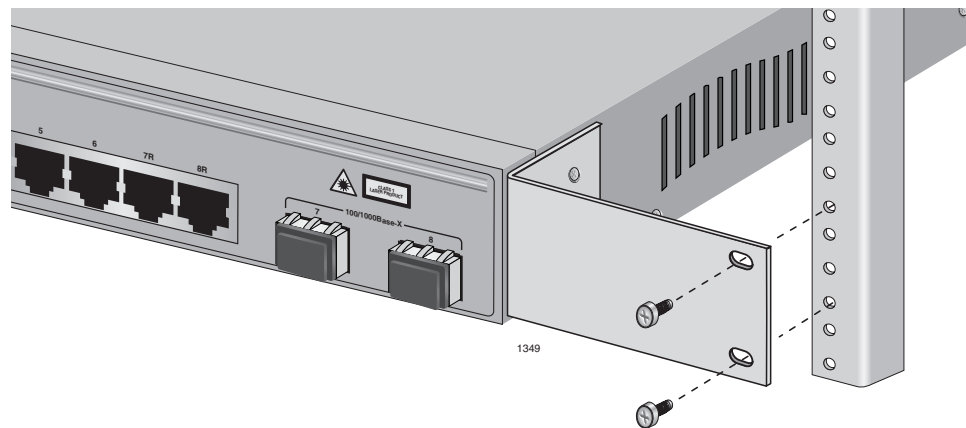

Figure 9. Mounting the Switch in a Rack
6. Mount the switch in a 19-inch rack using standard screws (not provided), as shown in Figure 9.